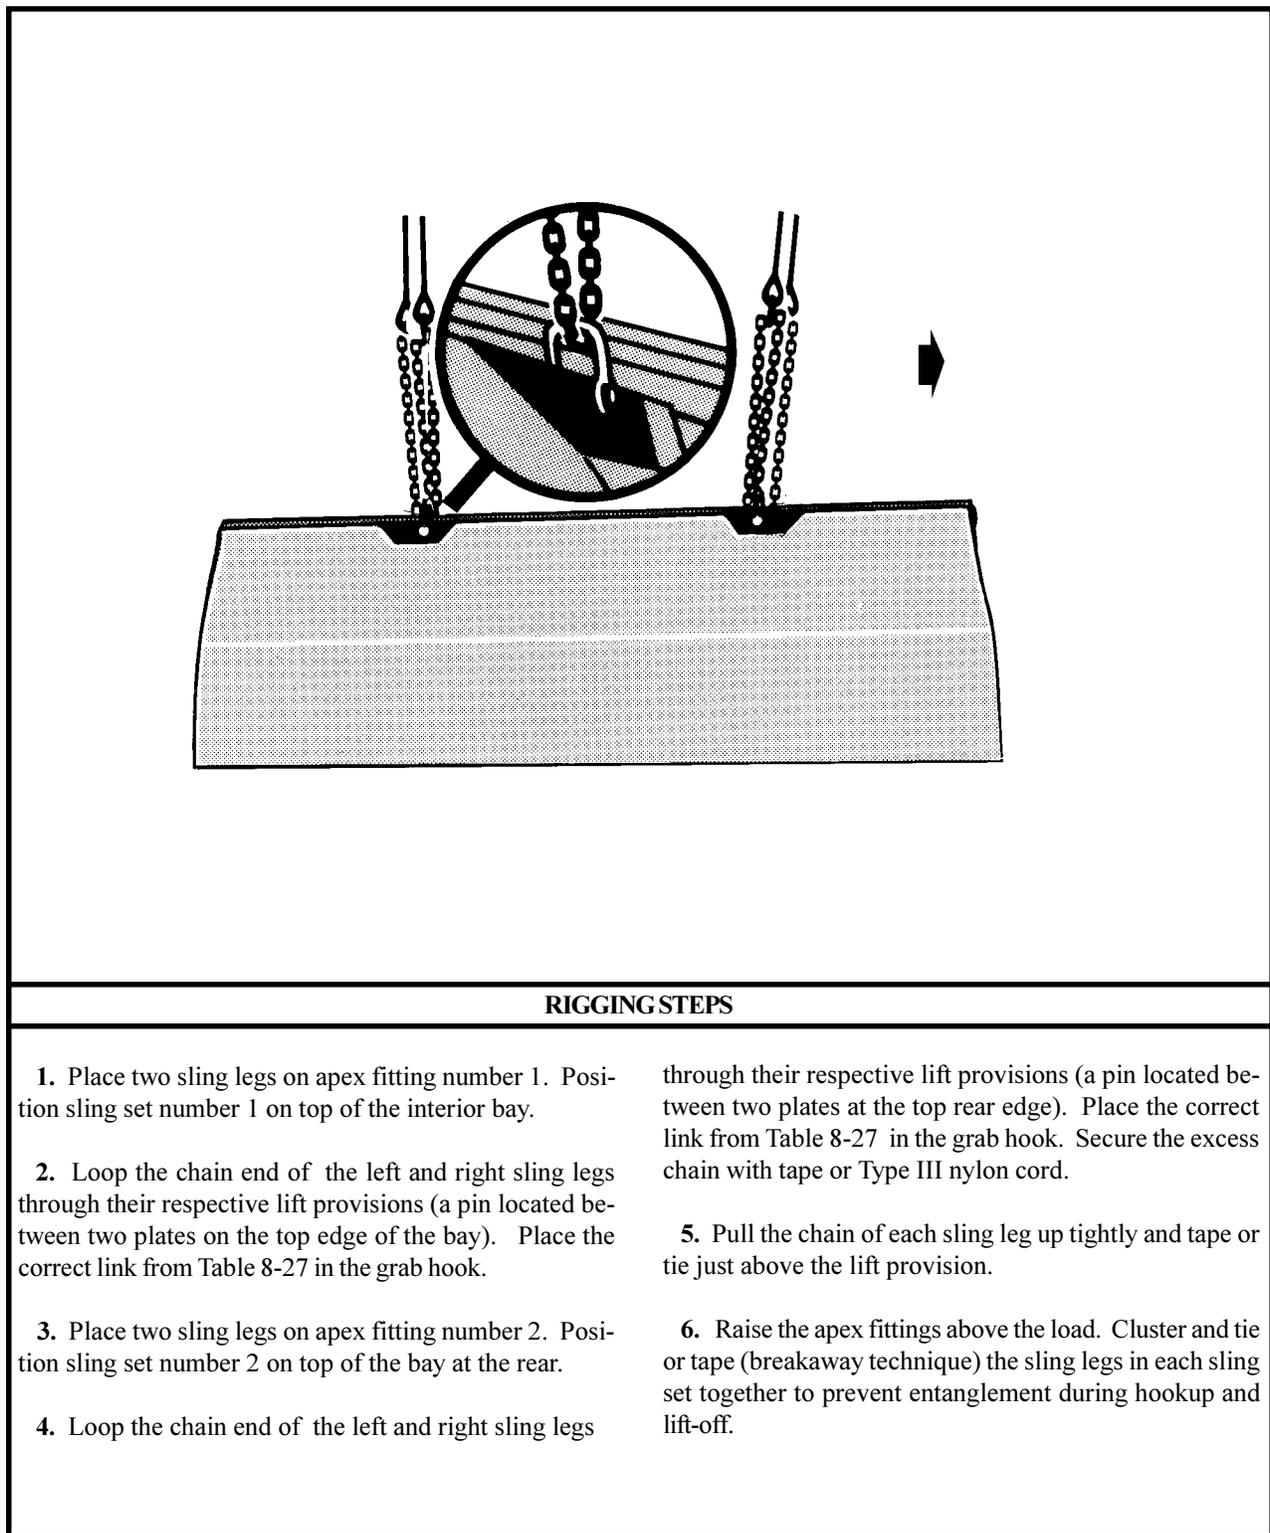

Figure 8-27. Ribbon Bridge, Interior Bay
(2) **Rigging.** Rig the load according to the steps in Figure 8-27.